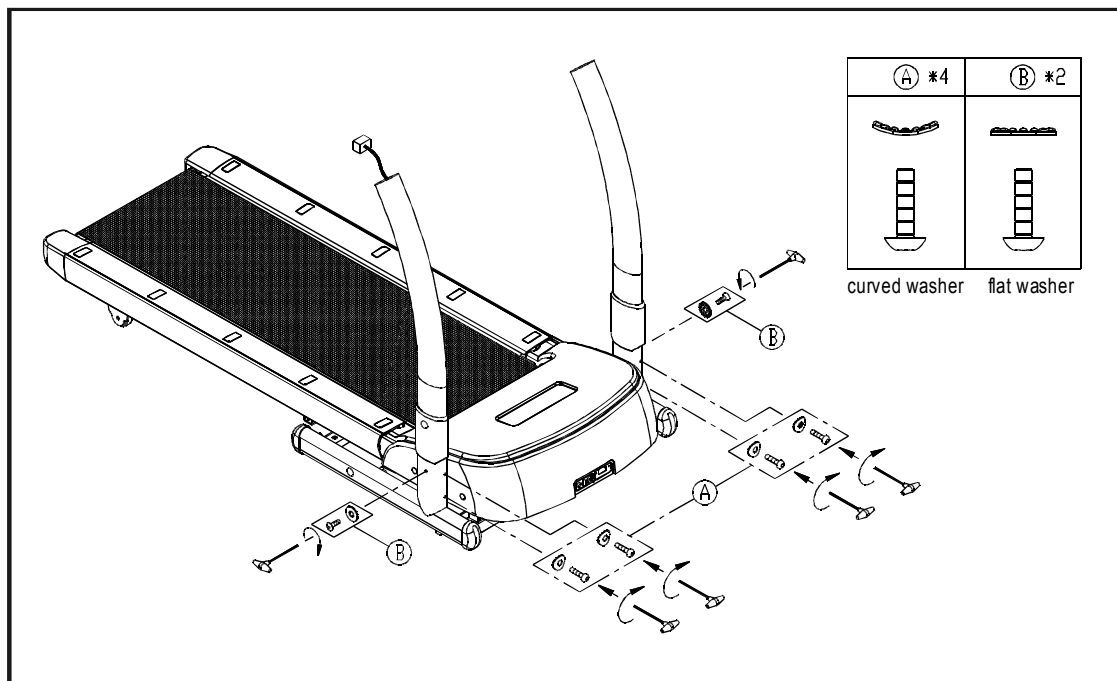

Fig.3
3. Use the T-handle hex key wrench (M6) to fasten the left and right lift post, please do not fully tighten it yet (see Fig. 3)